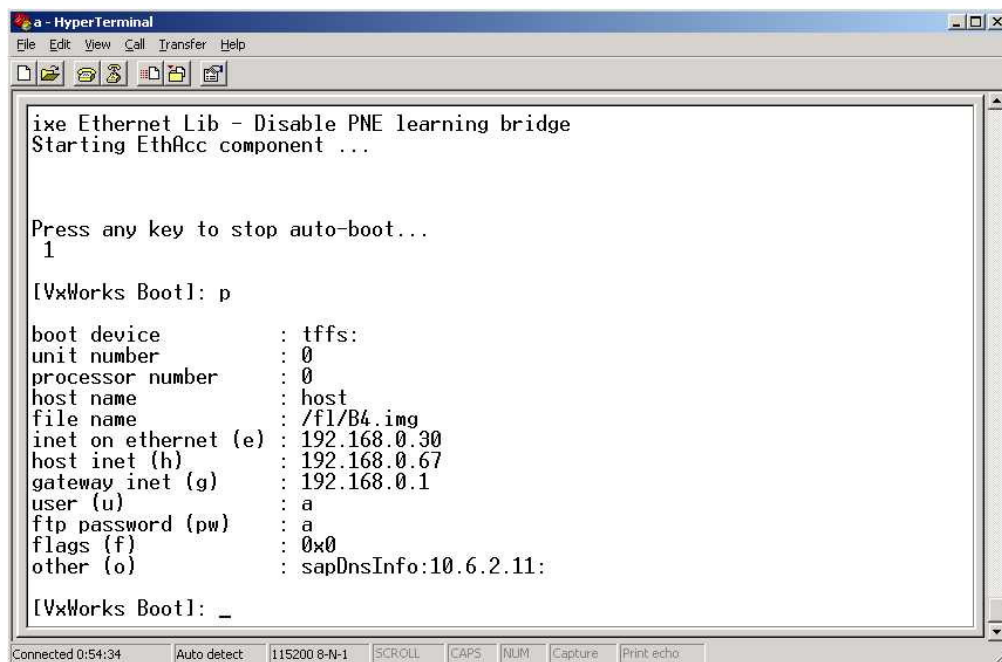

Figure 32. Local Boot Setting in BootROM
3. Type “**p**” to check if the settings are correct, as shown in Figure 32.